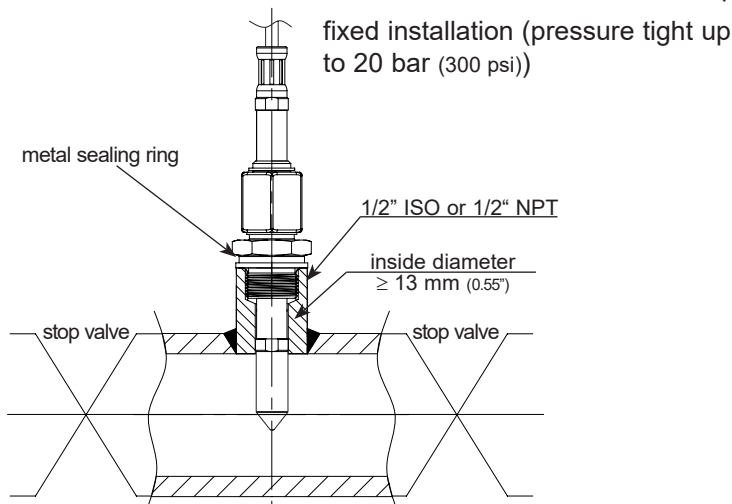

Fig. 10 Installation of the EE310-T10 probe directly into the process
4.5.1 Installation of the probe directly in the process (see Fig. 10)
Replace the metal sealing ring (see Fig. 10) by a new one every time before re-installing the probe.